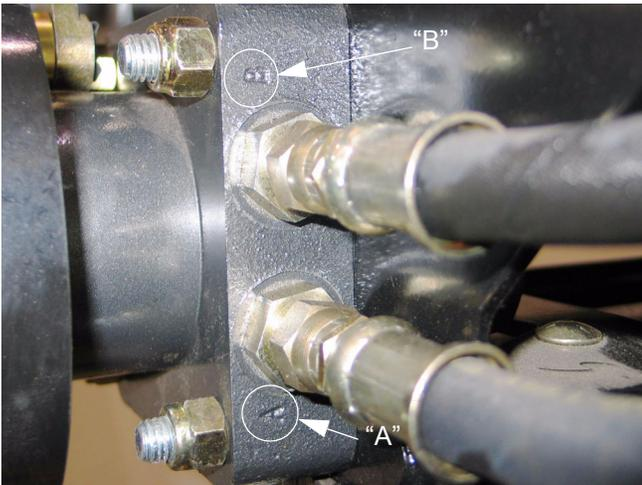

Figure 23.9
23.9. The heavier hoses carry pressurized fluid between the pumps and the wheel motors. See Figure 23.9.